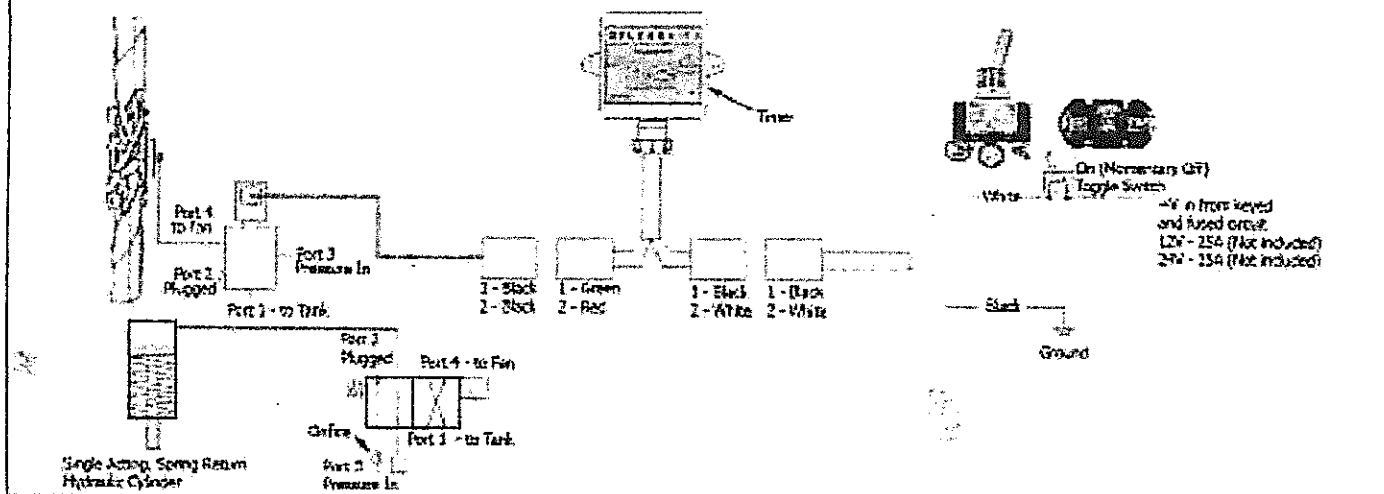

Figure 1
1. Mount the solenoid valve in a suitable location on the application. If a spacer plate is included with the control kit, mount the plate between the valve and the mounting surface as required. Ensure the orifice is in Port 3. Refer to Figure 1.